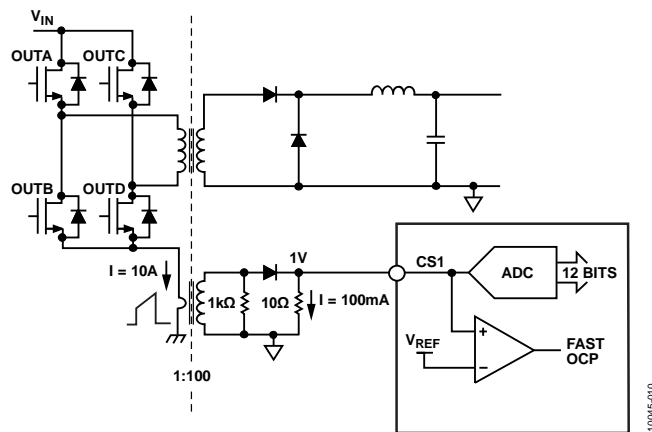

Figure 13. Current Sense 1 (CS1) Operation
CS1 is typically used for the monitoring and protection of the primary side current, which is commonly sensed using a current transformer (CT). The input signal at the CS1 pin is fed into an ADC for current monitoring. The range of the ADC is 0 V to 1.4 V. The input signal is also fed into a comparator for pulse-by-pulse OCP protection. The typical configuration for the CS1 current sense is shown in Figure 13.